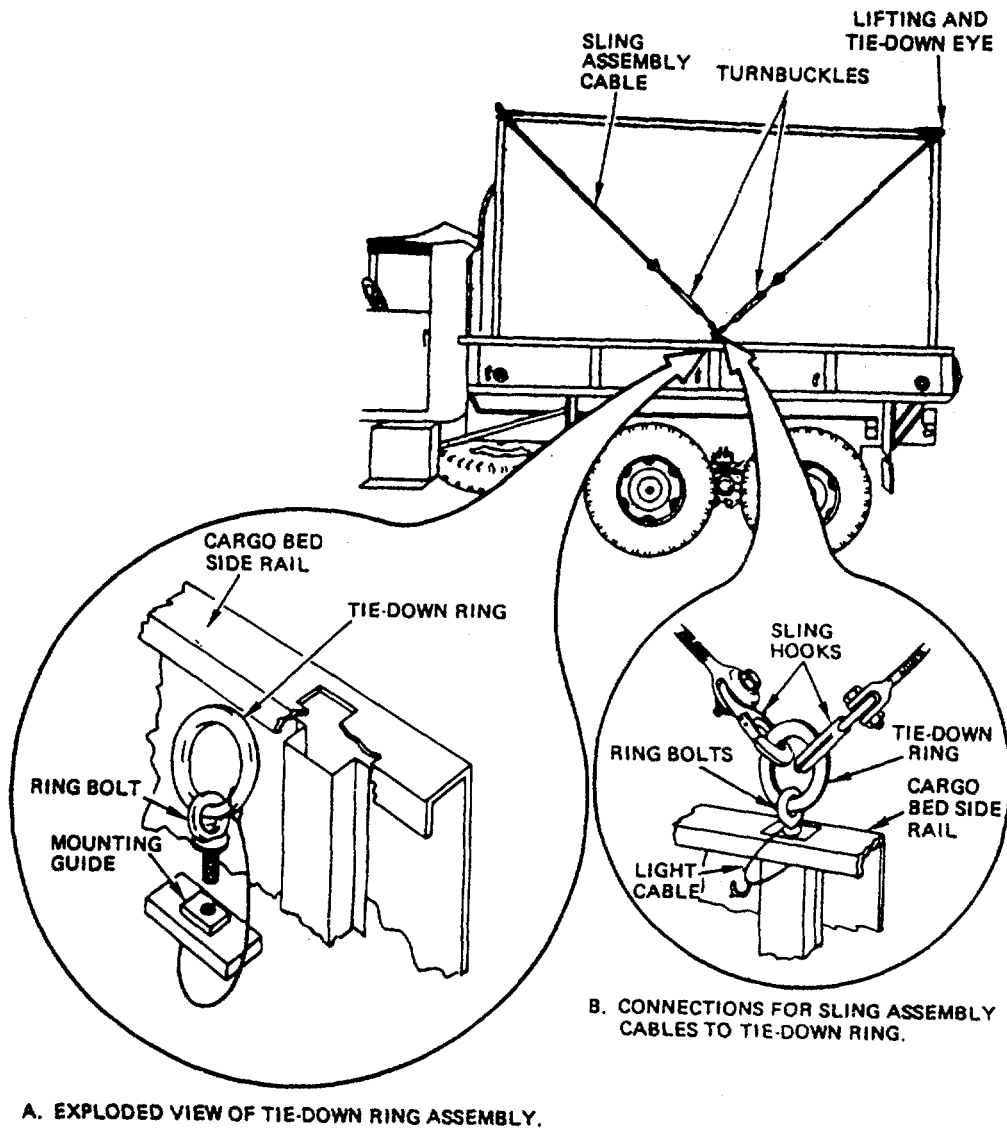

Figure 2-16. Securing Shelter
(6) Position truck under shelter and slowly lower it onto truck using towing eye rope to help guide it into position.
(7) Remove lifting ring from lifting hook., Disassemble lifting ring and sling hooks. Remove sling center hooks from the lifting eyes. Remove rope from rear towing eyes.
d. Securing Shelter. (See figure 2-16.)
(1) Install tiedown ring assembly above the center support on the cargo bed siderail of the truck.
(2) Use the hook at the farthest end from turnbuckle and hook each end of the sling assemblies to a tiedown eye of the shelter.
(3) Secure sling hooks to tiedown ring.
(4) Tighten turnbuckles hand tight, then turn each turnbuckle an additional one-half turn using a bar or rod inserted in the turnbuckle slot.
(5) Insert wooden blocks between shelter skids and side of truck bed.
(6) Insert wooden blocks between shelter skids and cab wall.